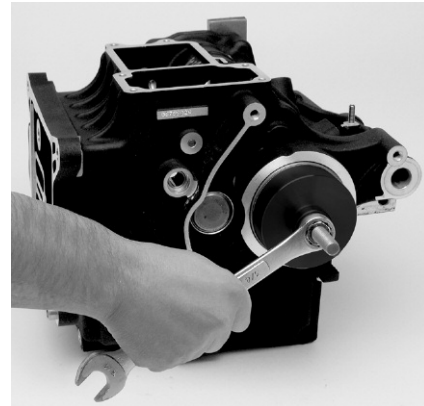

FIG. 1
2. When you are at the point of installing your main drive gear case bearing H.D. No. **8967** into the trans case, locate two of your original trap door screws with washer No. 3249. Use these two screws with washers to mount item # 1 installer bar onto door side of case as shown in **Fig 1**. Note that bar is laser marked "TOP". Mount bar to door mounting holes in case with "TOP" lettering facing you. See **Fig 1**.
3. Install item #7 washer onto lubed screw item #3 the length of shaft and install in the center hole on item # 1 installer bar as shown in **Fig 1** until screw head seats against bar .